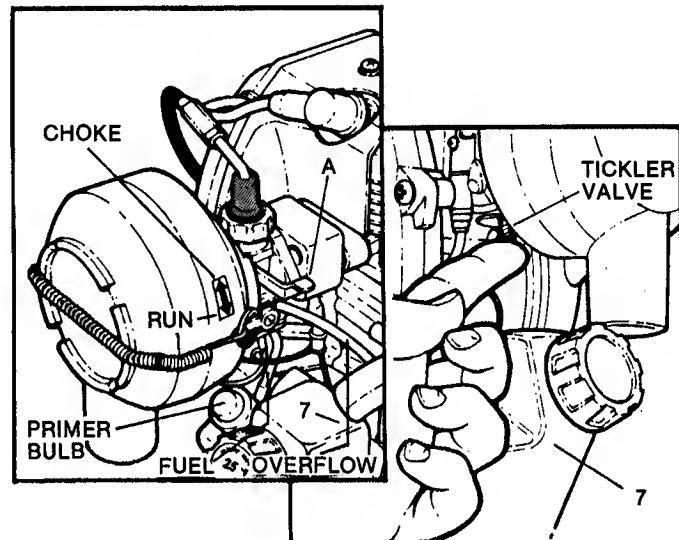

FIG. 3 - PRIMING THE ENGINE
1. Pump the primer bulb on FUEL TANK (7), while holding the tickler valve in until fuel starts flowing through overflow tube as shown in FIG. 3. Priming is not required with a warm engine. NOTE: Failure to hold tickler valve in while priming will flood the engine.